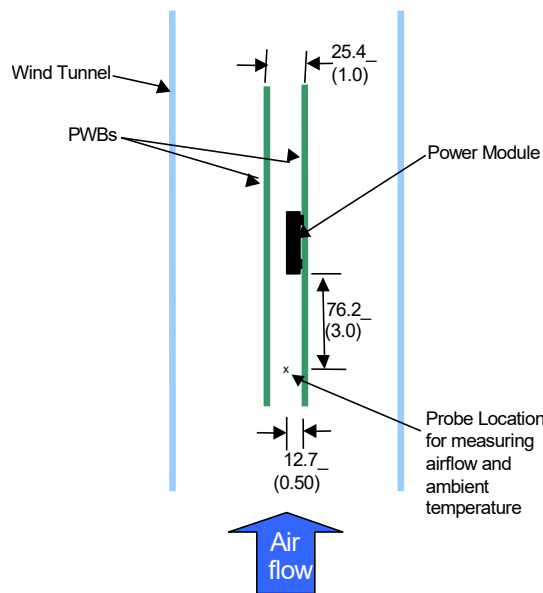

Figure 34. Thermal Test Setup.
Power modules operate in a variety of thermal environments; however, sufficient cooling should always be provided to help ensure reliable operation. Considerations include ambient temperature, airflow, module power dissipation, and the need for increased reliability. A reduction in the operating temperature of the module will result in an increase in reliability. The thermal data presented here is based on physical measurements taken in a wind tunnel. The test set-up is shown in Figure 34. The preferred airflow direction for cooling the module and the thermal reference points, T_{ref} used in the specifications are shown in Figure 35. For reliable operation the temperatures at these points should not exceed 120°C (IC300) and 115°C (C202). The output power of the module should not exceed the rated power of the module ($V_{o,set} \times I_{o,max}$). Please refer to the Application Note “Thermal Characterization Process for Open-Frame Board-Mounted Power Modules” for a detailed discussion of thermal aspects including maximum device temperatures. Increased airflow over the module enhances the heat transfer via convection. The thermal derating of figures 2, 8, 14 and 20 show the maximum output current that can be delivered by each module in the indicated orientation without exceeding the maximum T_{ref} temperature versus local ambient temperature (TA) for several air flow conditions. The thermal derating curves were generated using a 12 layer evaluation board with 3oz copper in inner layers and 2 oz in outer layers.